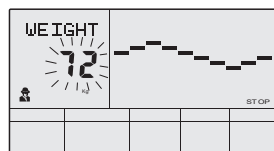

fig 36
- D. The weight display will flash, and then press(or rotate) UP, DOWN button to set up your weight. Press ENTER to confirm the value.(See fig 36)